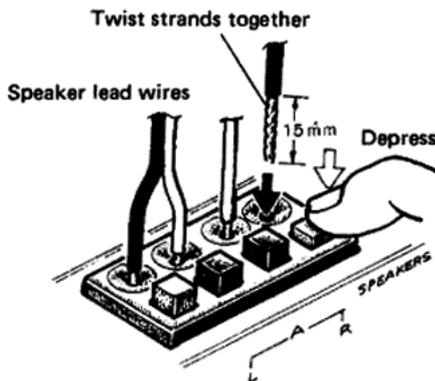

Fig. 6
3. As shown in Fig. 6, depress the terminal button and insert the lead wire into the hole.